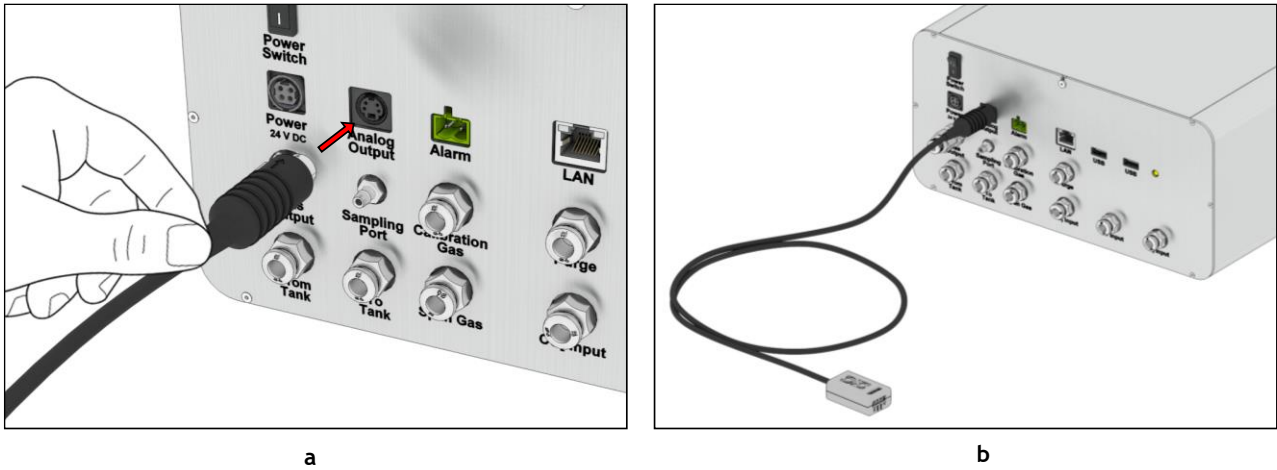

Figure 23 Analog Output connection
2. Connect the Analog output cable to the connector labeled *Analog Output* on the rear panel of the Tri-Gas-Mixer, as shown in Figure 23